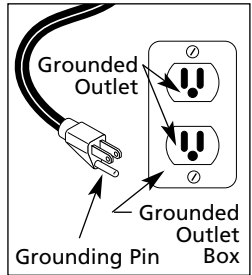

Figure 2
3. This product is for use on a nominal 120-volt circuit and has a grounding plug that looks like the plug in Figure 2.